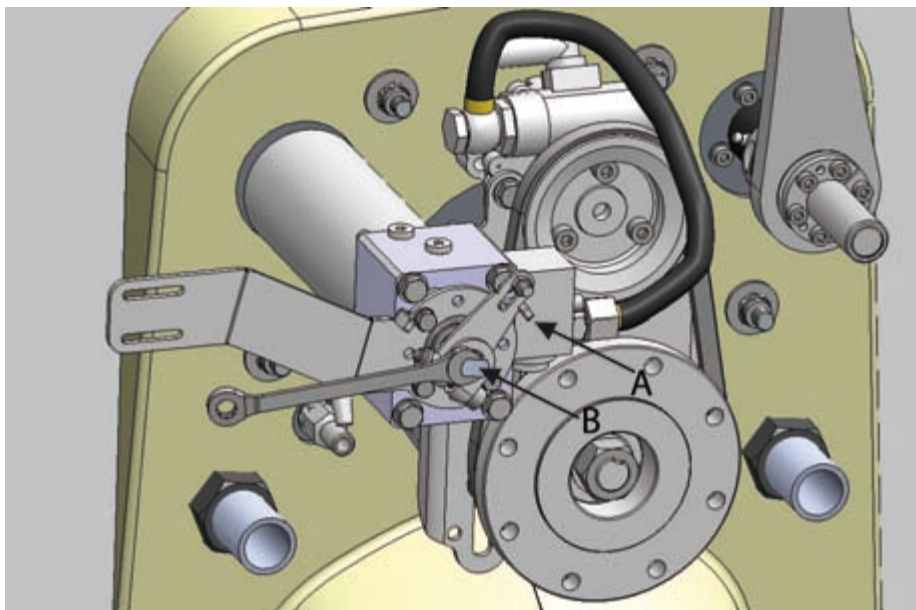

Figure 47. Operating shaft and limiter
3. Place the lever against the limiter on the shaft (figure 47, point A).
5. Using a wrench, turn the operating shaft (figure 47, point B) 10 mm (0.4") clockwise so that the reversing deflector is down, blocking the jet flow.